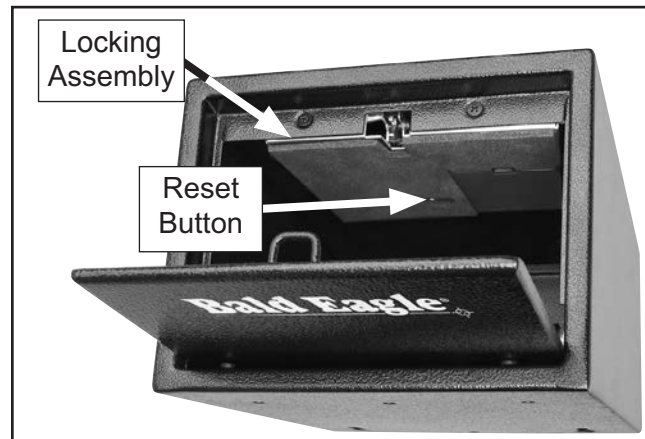

Figure 4. Location of reset button.
2. Press and hold reset button (see **Figure 4**) on bottom of locking assembly for three seconds. Two beeps sound and green light flashes.